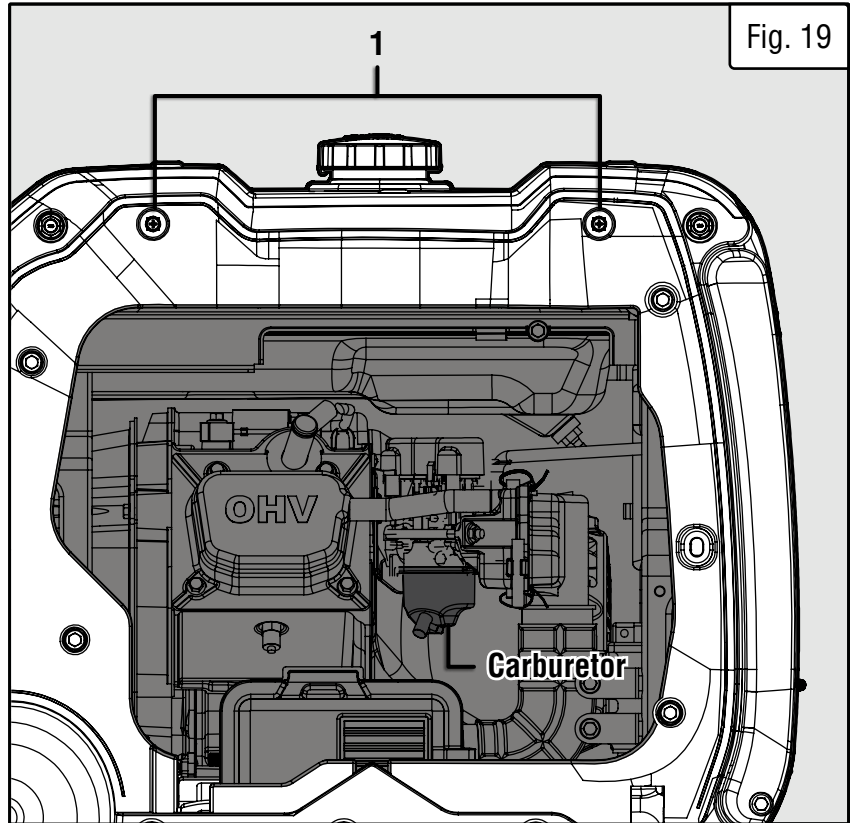
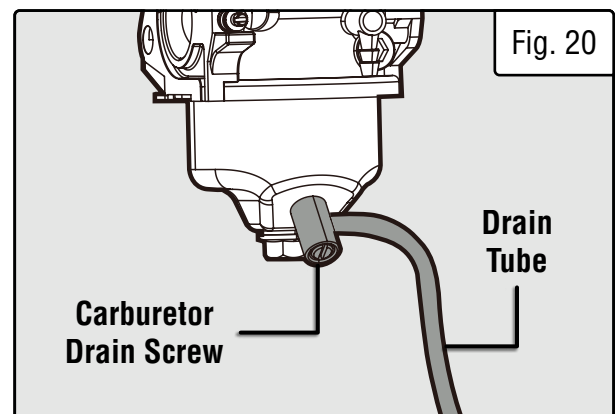

Fig. 19
Fig. 20
3. Using a Phillips-head screwdriver, unscrew the top two screws (Fig. 19 - 1) and remove the service panel on the opposite side of the recoil starter.
4. The carburetor can be accessed between the engine and the air filter (Fig. 19). Locate the transparent tube from the carburetor (Fig. 20) that extends down through the base plate of the generator.
6. Open up the carburetor drain screw (Fig. 20) with a flat-head screwdriver and drain out any gasoline that has built up inside the carburetor through the drain tube into the approved gasoline-storage container.
1. Using a Phillips-head screwdriver, unscrew the top two screws (Fig. 19 - 1) and remove the service panel on the opposite side of the recoil starter.
1. Using a Phillips-head screwdriver, remove the service panel on the opposite side of the recoil starter by unscrewing the top two screws (Fig. 19 - 1).